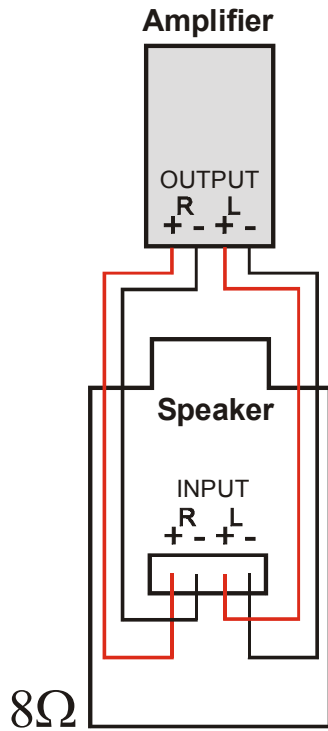

Figure 5: Connecting One Stereo Speaker
- If the size of the room only requires a single speaker, we recommend using the mono/stereo speaker model for speech and music (see Figure 5)